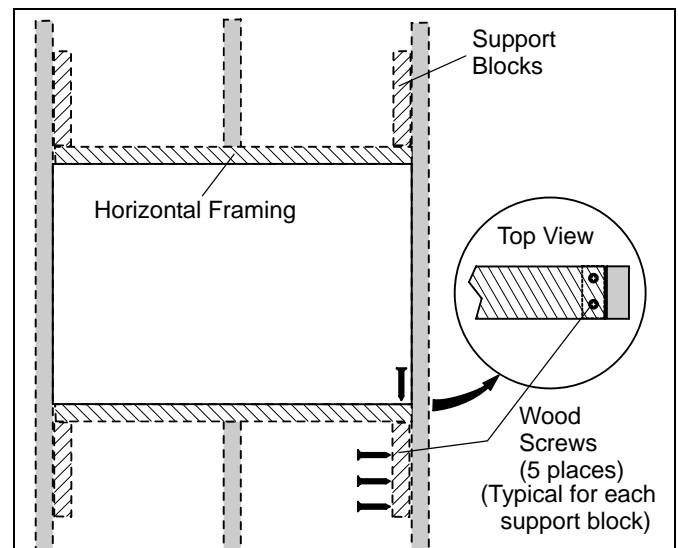

Figure 2
3. Using three #10 x 2-1/2" countersunk wood screws (not provided), attach each support block to the studs (See Figure 2)
5. Attach horizontal framing to each support block with two #10 x 2-1/2" countersunk wood screws (not provided). (See Figure 2)